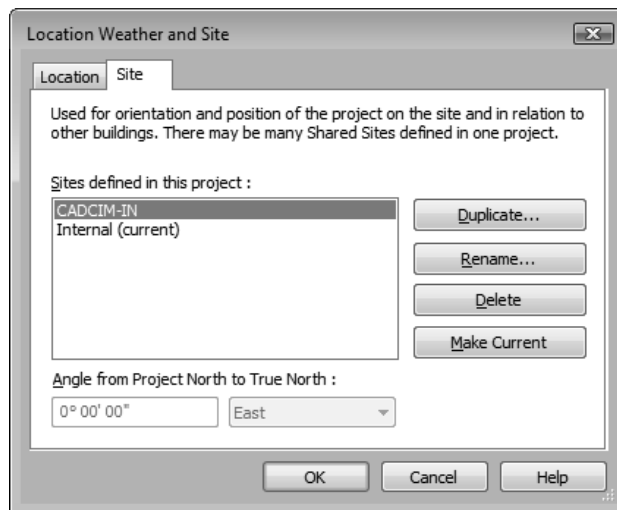

Figure 3-42 CADCIM-IN selected in the Sites defined in this project list box of the Site tab
- Enter **CADCIM-IN** in the **Name** edit box and then choose the **OK** button; the **Name** dialog box closes and the name entered is displayed and highlighted in the **Sites defined in this project** list box, refer to Figure 3-42 .